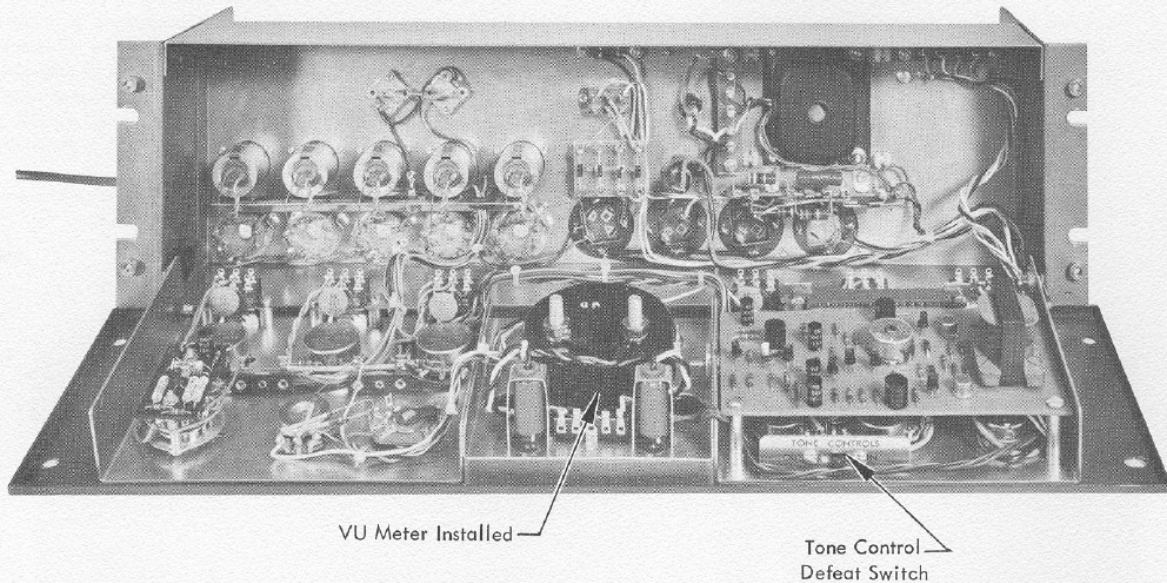

Figure 7. 1592A Mixer-Amplifier with Front Panel Open
4. DEFEAT OF TONE CONTROLS (variable low and high frequency tone controls with front-panel controls) is incorporated in the event fixed equalization is utilized at some other point in the system. This is accomplished by turning Tone Controls "OFF" at labeled switch, available only from inside chassis (Figure 7).
6. ALTEC HINGE-MECHANISM, on which the front-panel is mounted, allows the panel to be opened while the unit is in operation, without interrupting program material or requiring removal of the amplifier from its rack. (Figure 7).